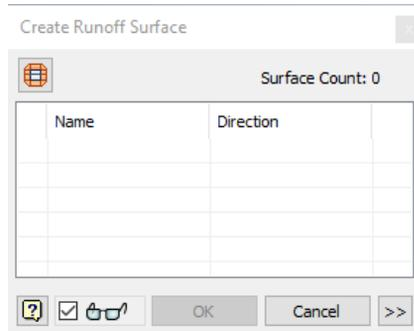

Figure 19-55 The Create Runoff Surface dialog box
1. Choose the **Create Runoff Surface** tool from the **Parting Design** panel in the **Core/Cavity** contextual tab of the **Ribbon**; the **Create Runoff Surface** dialog box is displayed, as shown in Figure 19-55.